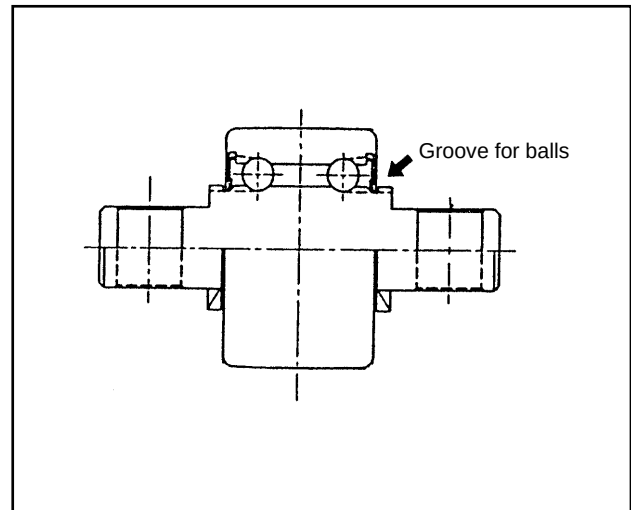

Fig. 8.14 Side Roller
- (7) Replacing side rollers
- ① Remove the side roller assembly. Keep the numbers of the shims and their combination as they were.
- ② Install a new roller with the shims removed in step ①, pointing the groove for the balls to the shim side. (See Figure 8.14.)
- ③ If there is excessive looseness between the side roller and inner channel, add the shims between the end roller and side roller, seeing “8.2.5 PROCEDURE FOR ADDING OR SUBTRACTING SHIMS”.